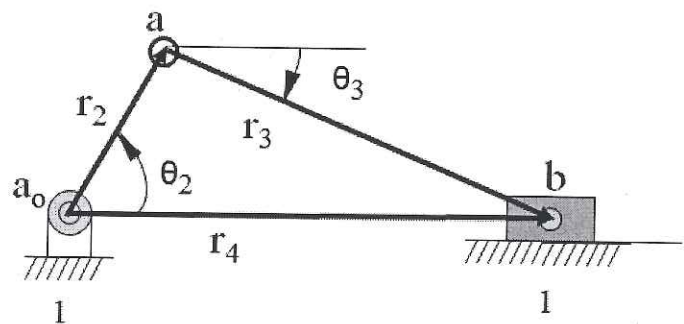

Figure 3 Offset crank-slider
3. Figure 3 show a offset crank-slider. For the mechanism, if $aa_o=6\text{cm}$, $ab=13\text{cm}$, (a) write down the vector loop equation, (b) Find the close form equation for r_4 , (c) please find r_4 and θ_3 when $\theta_2=90^\circ$. (20%)